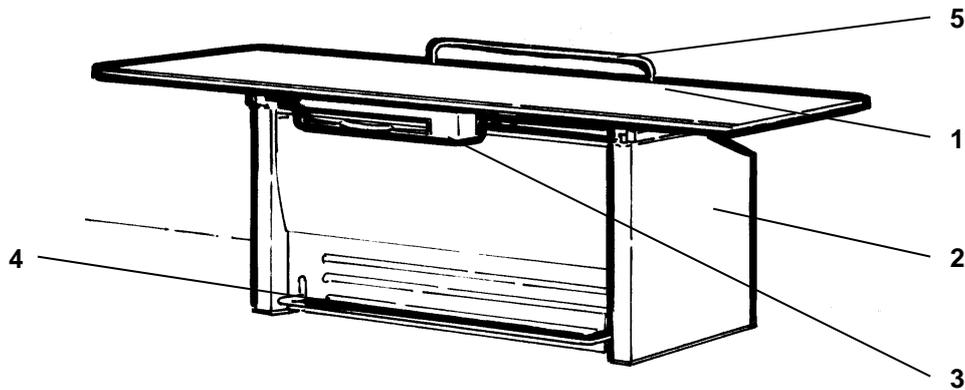

Figure 2-1
Release the tabletop brakes by stepping on the foot-operated brake release pedal bar (Figure 2-4) to position the floating tabletop (Figure 2-1) manually.
Bring the tabletop (Figure 2-1) into the forward position before getting on or off the patient!
Step on the brake release pedal bar (Figure 2-1, item 3)
Move the tabletop (Figure 2-1, item 1) into position for patients convenient getting on the tabletop.
Release the brake release pedal bar (Figure 2-1, item 3).
Step on the brake release pedal bar (Figure 2-1, item 3) and position the patient by moving the floating tabletop (Figure 2-1, item 1).
Move the tabletop (Figure 2-1, item 1) into position for patients convenient getting off the tabletop.
Assist the patient in getting off the tabletop (Figure 2-1, item 1).